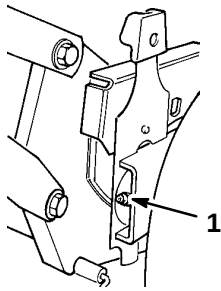

Figure 29
1. Wipe the grease fittings on the rear height-of-cut adjusters (Fig. 29) with a clean rag.